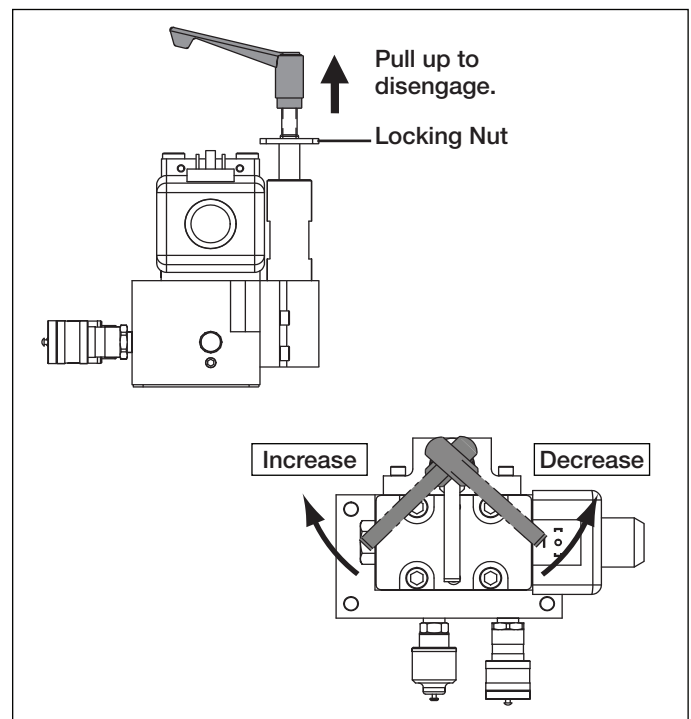

Figure 12, User-Adjustable Relief Valve (typical)
2. Loosen the relief valve locking nut. See Figure 12.
- Loosen the relief valve locking nut. See Figure 12.